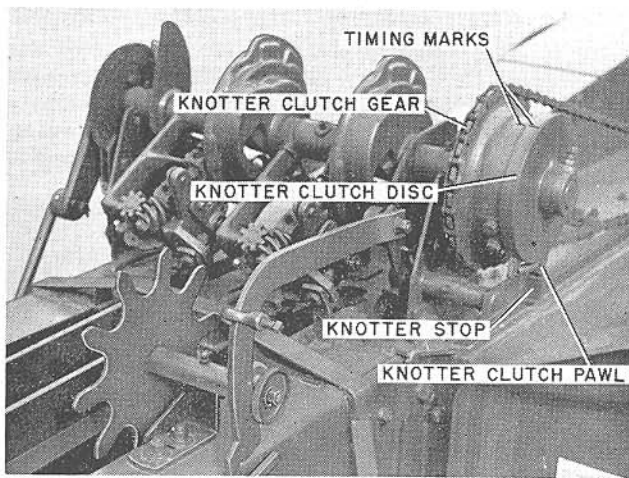

FIGURE 16
4. Turn the knotter clutch gear until the timing marks of the knotter clutch and the knotter clutch disc are directly opposite each other as shown (Point A, Fig. 16).